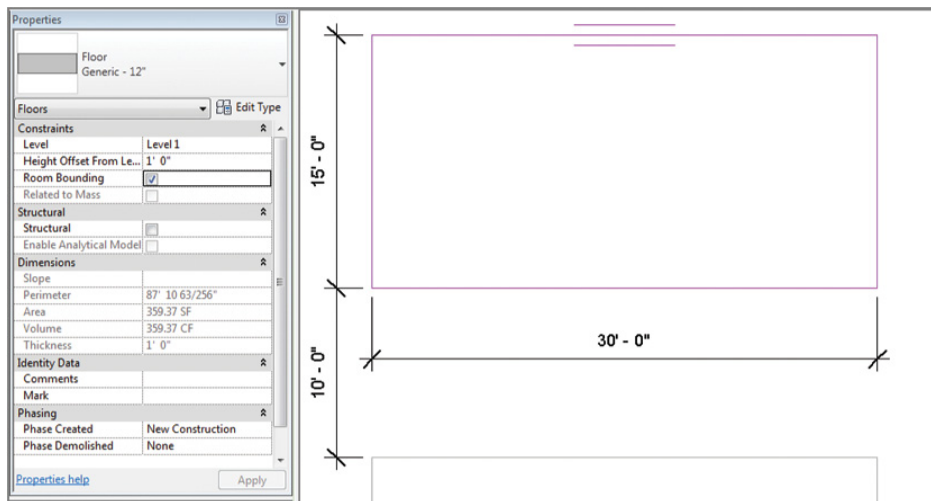

FIGURE 3.4 New floor 1'-0" above Level 1
6. Finish the sketch to complete the floor (Figure 3.4).